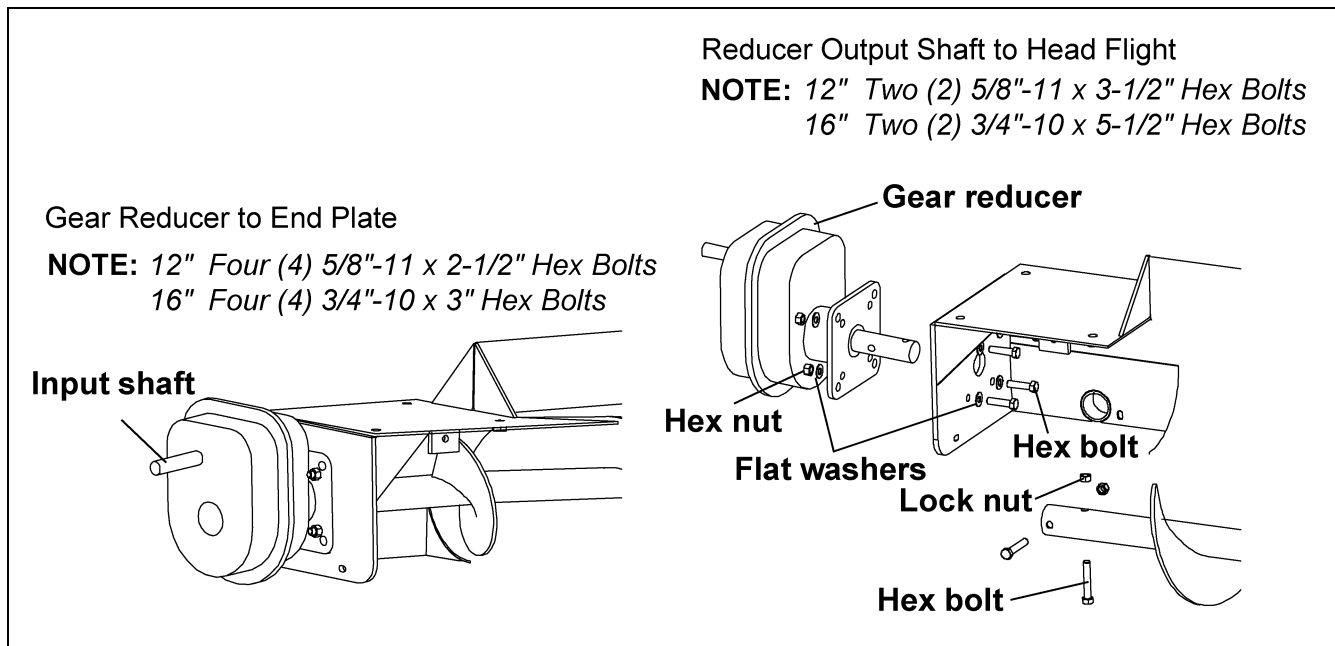

Figure 5P
- A. Slide the output shaft of the reducer through the end plate of the head section and into the end of the head flight. Secure the Reducer Output Shaft to the Head Flight with hex bolts and lock nuts. (See Figure 5P on Page 33.)
- B. Bolt the reducer to the end plate of the head section using hex bolts, flat washers and lock washers, supplied with the reducer. (See Figure 5P on Page 33.)